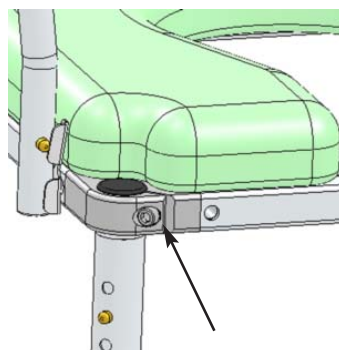

Figure 13
**C Fasteners:** Over time the screws and washers on the chair may become loose. It is very important that these are checked and securely tightened before each use. Failure to do so could cause a part to dislodge from the chair (Refer to Figure 13).